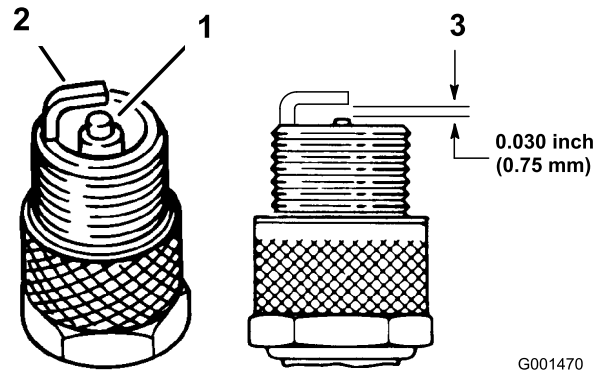

Figure 40
1. Look at the center of the spark plugs (Figure 40). If you see light brown or gray on the insulator, the engine is operating properly. A black coating on the insulator usually means that the air cleaner is dirty.
3. Check the gap between the center and side electrodes (Figure 40). Bend the side electrode (Figure 40) if the gap is not correct.
3. Connect the wires to the spark plugs (Figure 40).